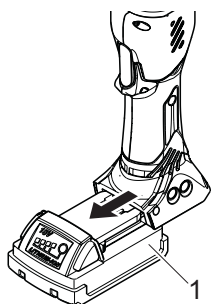

Fig. 5: Removing the battery
2. Remove battery (Fig. 5/1) from clamp pincer.